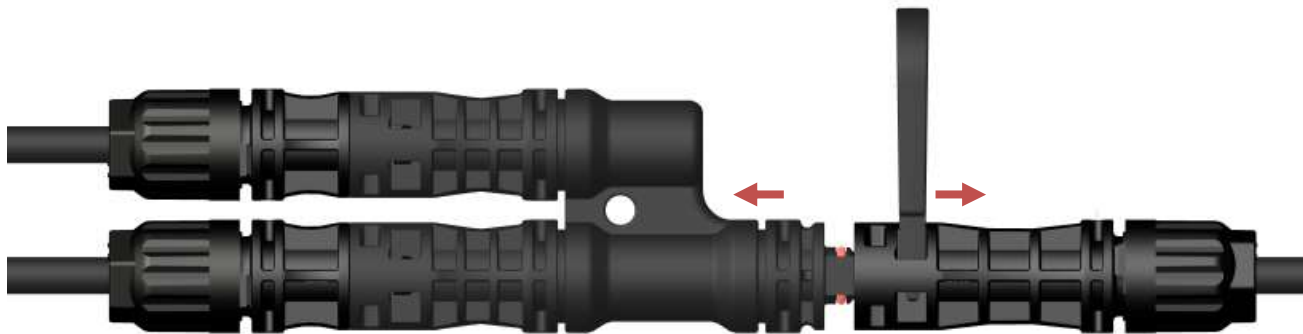

Figure 3
- ✧ 用左右手分别拉拔连接器，即可分开分支连接器与公母电缆连接器（如图 3）。
Separating the branch connector from the male and female cable connector by pulling the connector with both left and right hands (Fig. 3).